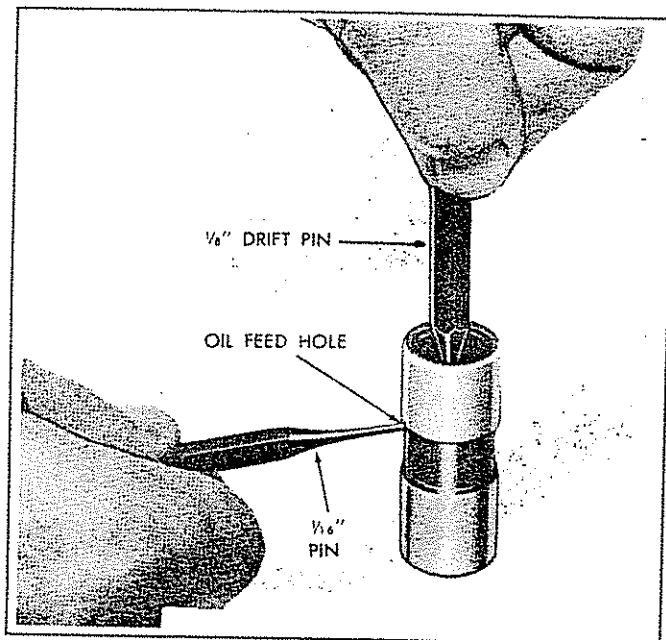

Fig. 6A2-15--Assembling Hydraulic Lifter
tension (Fig. 6A2-15).
7. Install the metering valve and push rod seat (Fig. 6A2-12).